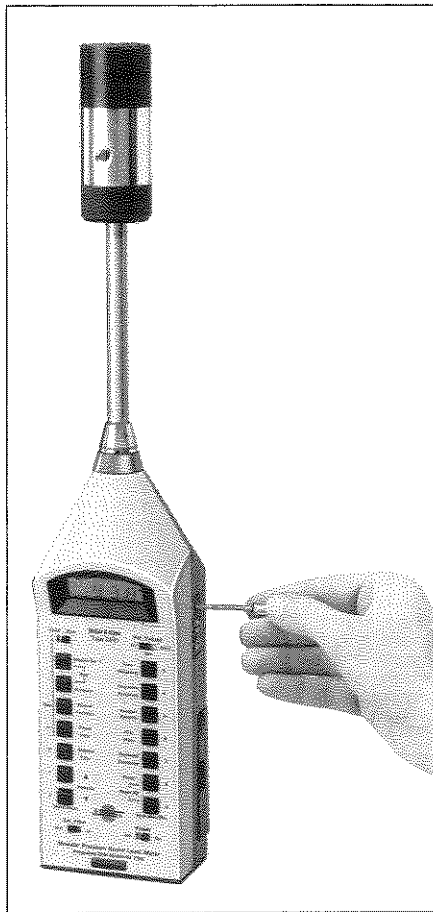

Fig. 2.9. Calibration with Sound Level Calibrator Type 4230
6. Use the supplied Screwdriver QA0001 to adjust the **Sens. Adj.** potentiometer on the side of the sound level meter (see Fig. 2.9) until the display shows a value of **93.8 dB**.